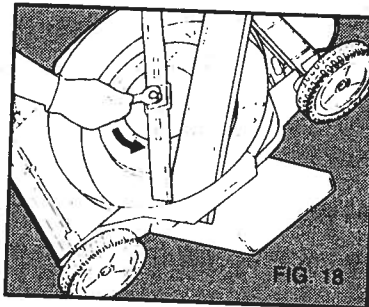

FIG. 18
3. Use a piece of 2" x 4" wood (about 2 feet long) to jam the blade and keep from turning. See (Fig. 18) Remove blade nut as shown in Fig. 18.